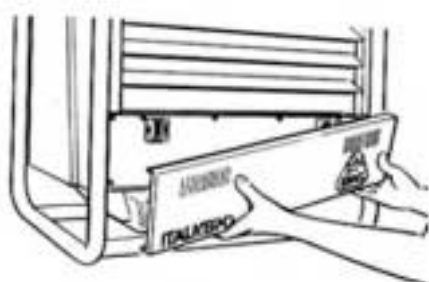

Fig.22
B. Miscati panoul frontal, scotandu-l complet. (Fig.22)